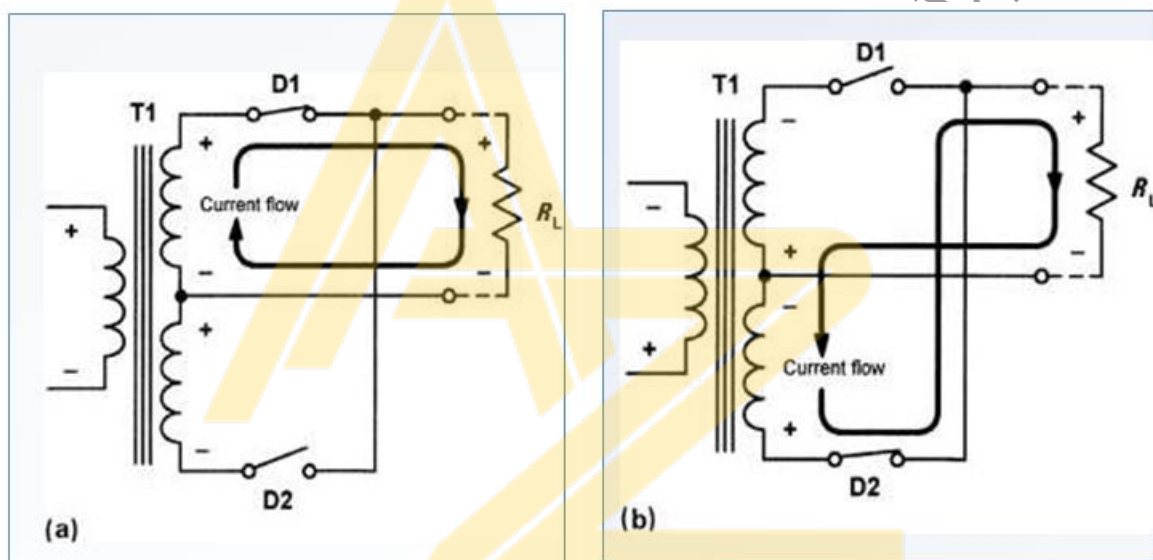

Figure 1.10 (a) Bi-phase rectifier with D1 conducting and D2 non-conducting
- In Fig. 1.10 (a) D1 is shown conducting on a positive half-cycle while in Fig. 1.10 (b) D2 is shown conducting.